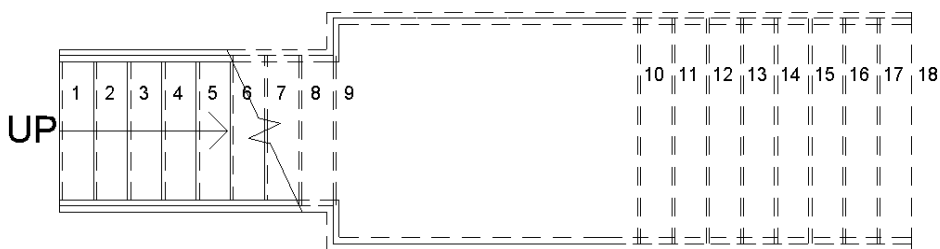

FIGURE 4.15 Finished component stair
- For the last step, let's add a stair tread/riser number annotation. Click the Annotate tab, and select Tread Number. Move the mouse over each of the recently created stair runs, and notice that a location line for the numbering appears. Click to add the numbers (these can be added in plan, elevation, and section views), as shown in Figure 4.15.